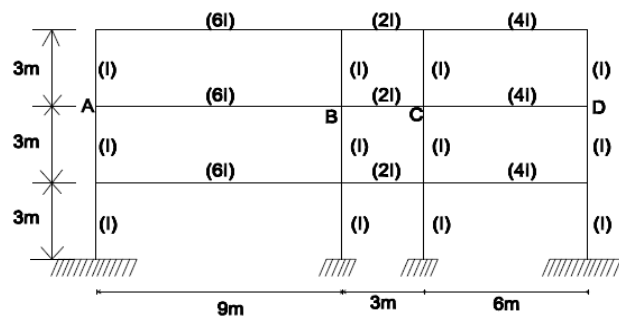

Figure 1
7. Analyse the intermediate frame of multistoried from shown in fig.1